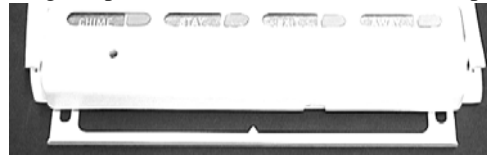

Figure 1. Removing Mounting Template
1. Remove the mounting template from the bottom of the touchpad (Figure 1).